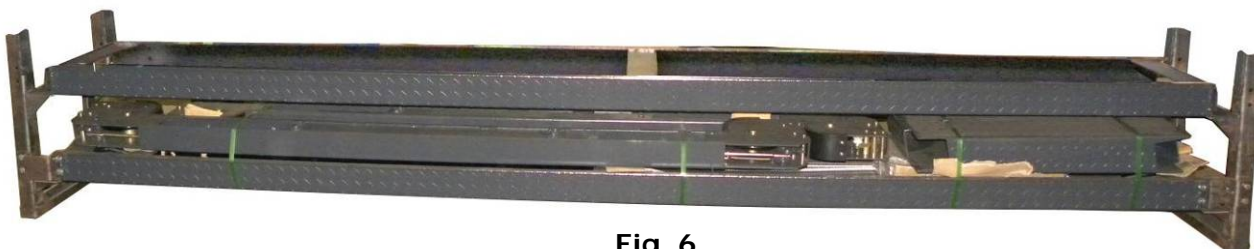

Fig. 6
3. Remove the approach ramps and the four columns (See Fig. 6).